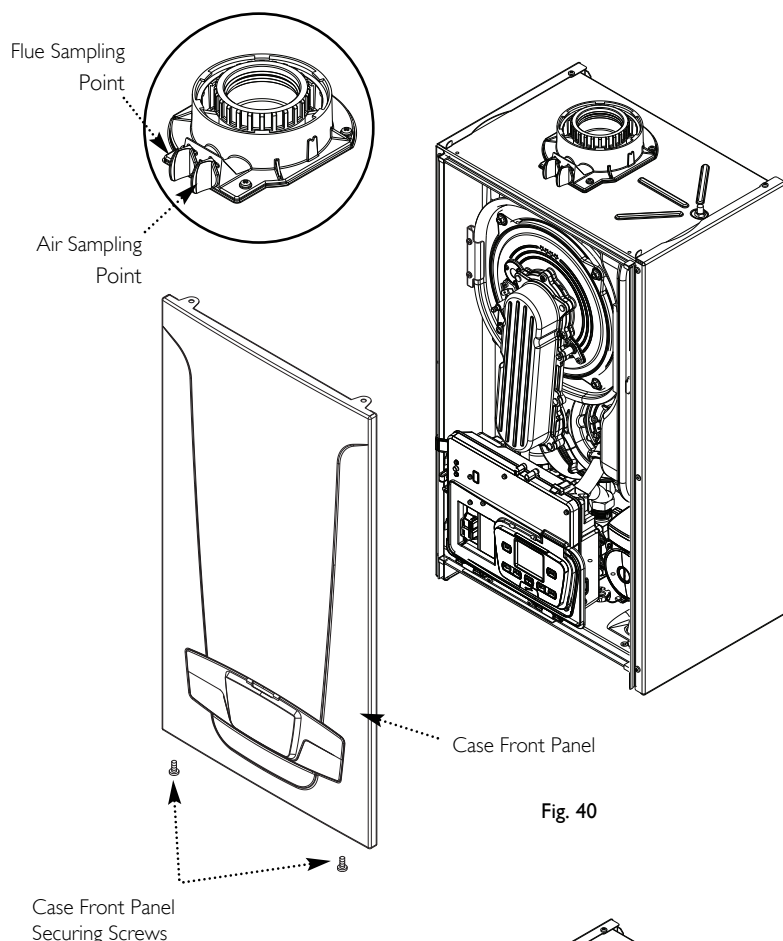

Fig. 40
3. Remove the screws securing the case front panel. Lift the panel slightly to disengage it from the studs on top of the case (Fig. 40) and hinge down the Control Box.